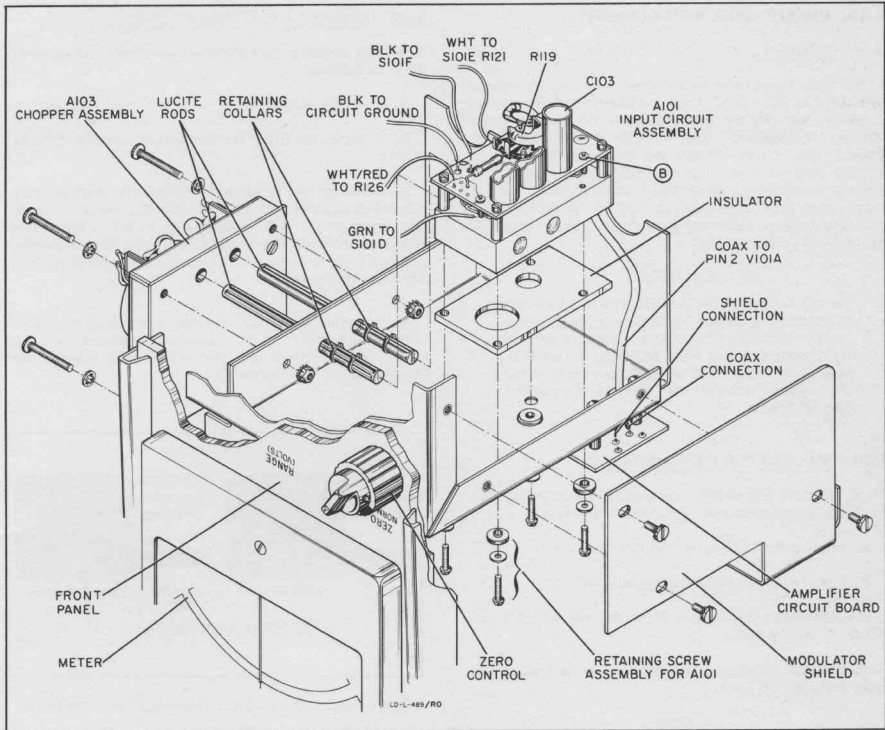

Figure 5-3. Exploded View, Showing Disassembly for Modulator Replacement
- h. Move oscilloscope probe (with resistor) to point B in figure 5-3.
5-22. Figure 5-3 shows necessary disassembly for modulator replacement. Proceed as follows:
- Disconnect all wires from the top of A101 as shown in figure 5-3.
- Remove the four screws holding the input circuit assembly (A101) to the main chassis. When replacing this assembly, be sure to reseat the insulated washers (figure 5-3) in their proper positions.
- Carefully unsolder the shielded cable (figure 5-3) from the amplifier circuit board (pin 2 and 3 of V101A). (A length of cable is normally supplied with the input circuit assembly. However, if it is more convenient, and the cable is known to be good, it may be disconnected at the input assembly circuit board.) In any case, avoid undue heat that might damage the inner conductor insulating material in the coax.